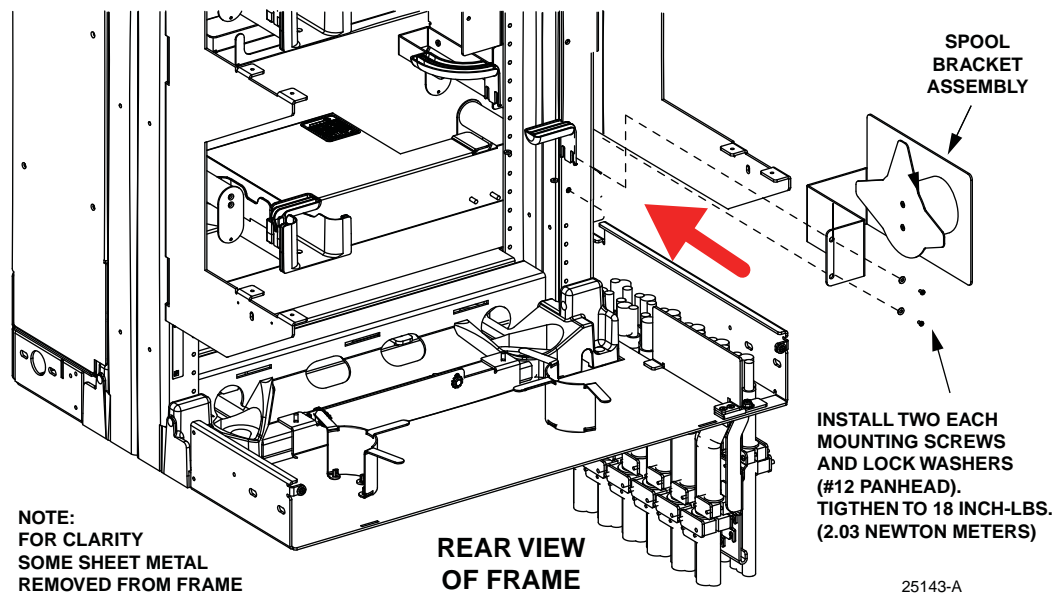

Figure 48. Installing Spool Bracket
- Locate the spool bracket assembly that came with the Standard Cable Bracket Kit, and install the bracket in the location from which the vertical cable guide was just removed as shown in Figure 48. Install the two screws and washers provided using the hole from which the standard bracket screw was just removed and the hole above it. Torque to 18 inch-pounds (2.03 Newton meters).